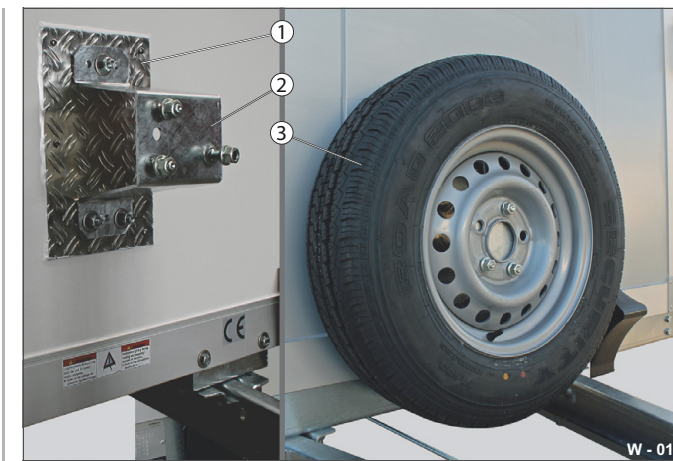

Fig. 19 Example: Spare wheel on front wall
- Check the screw connections (Fig. 20 /4) for the spare wheel holder (Fig. 19 /2) to ensure they are tight.